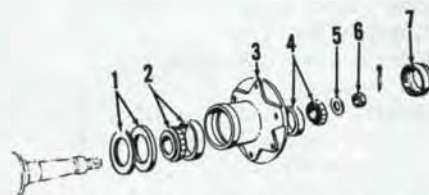

Fig. 4—Exploded view of wheel hub and bearing used on dual wheel tricycle and wide front axle models.
Dual wheel pedestal spindles are equipped with an external lip type seal (1—Fig. 4). The three lips on outside diameter of seal contact a steel wear sleeve that is pressed into the front wheel hub. Drive wear sleeve into hub with crimped edge of wear sleeve
**5. WHEEL ASSEMBLY.** Refer to Fig. 4. Stamped wheel disc is reversible on hub. Bearing adjustment is made by tightening retaining nut on spindle until bearings are firmly seated, backing nut off one castellation and installing cotter pin. Bearings should be repacked with No. 2 wheel bearing grease after each 500 hours of use.